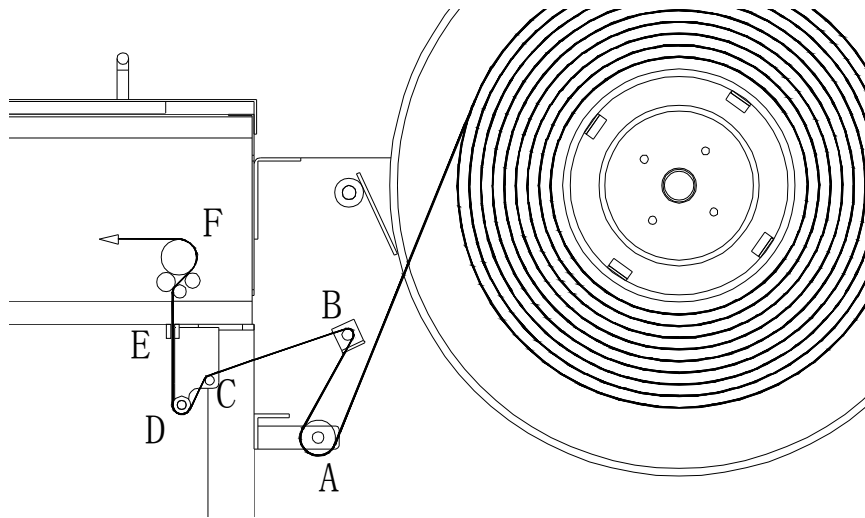

FIG 3-3
- ① Thread strap well according to the method as shown in FIG 3-3.